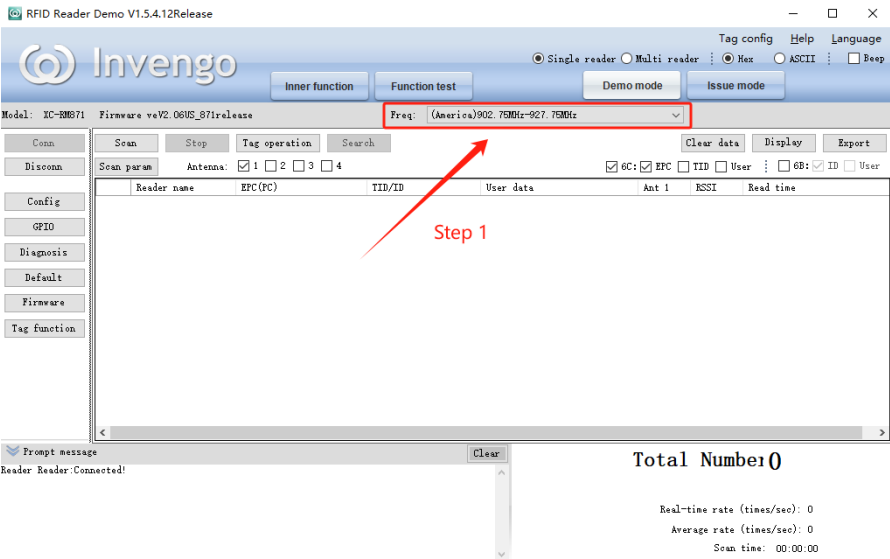

Figure 5-9 Frequency Band Setting Diagram 1
- 1) As shown in Figure 5-9, click the “Freq” dropdown menu;